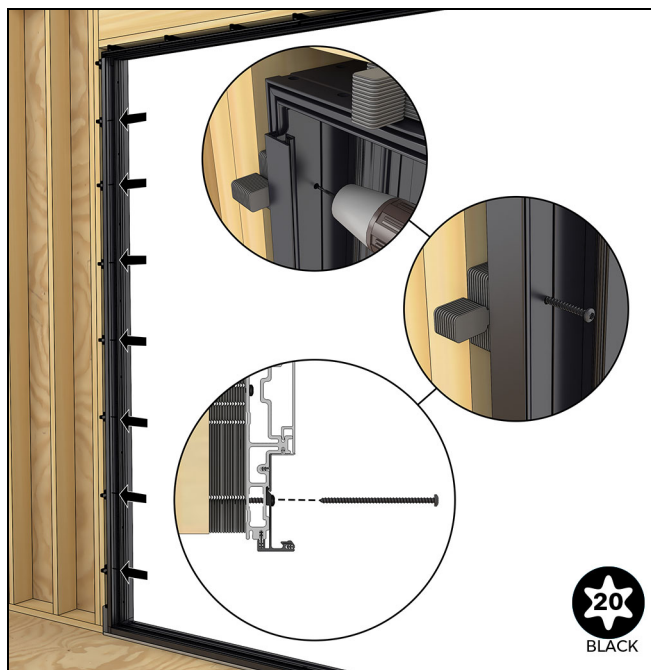

Figure 59 OX-O shown
13. On OX-O or O-XO configurations, install the jamb frame retainer on the interior with the fabricated notch oriented to the top, at the non locking jamb. Then pre-drill with a 3/16" bit into the RO through the pre-drilled holes in the retainer and fasten with #10 x 3" panhead screws provided. See Figure 59.